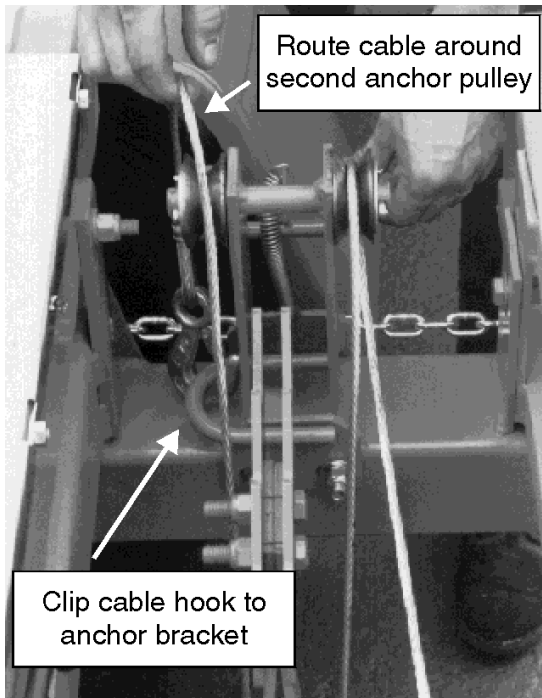

FIG. 1-3
3. Route the end of the cable around the remaining anchor pulley and attach cable hook to 'U' anchor bracket as shown in FIG. 1-3.